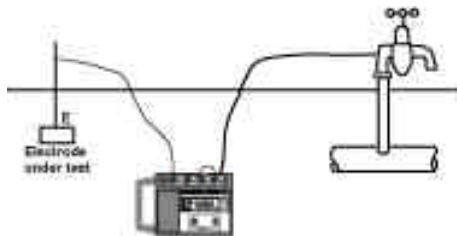

Fig. 14 'Dead' earth testing
- 3) Firmly connect the free ends of the test leads together as shown in Fig. 14.